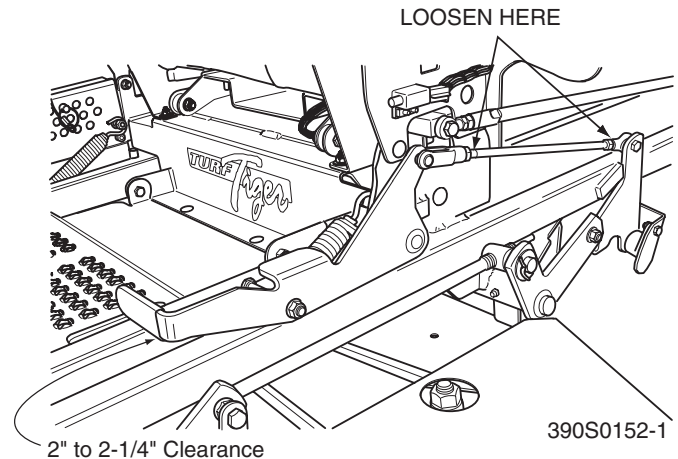

Figure 6-1. Brake Adjustment
2. With the brake lever in the disengaged position, check the distance between the top of the frame tube and the bottom of the brake handle. The distance should be 2" to 2-1/4" (See Figure 6-1).
3. If the distance is not at the specified measurement, adjust by loosening the jam nuts at both ends of the brake control rod and turning the rod until the proper distance is achieved. (See Figure 6-1). Tighten the jam nuts.